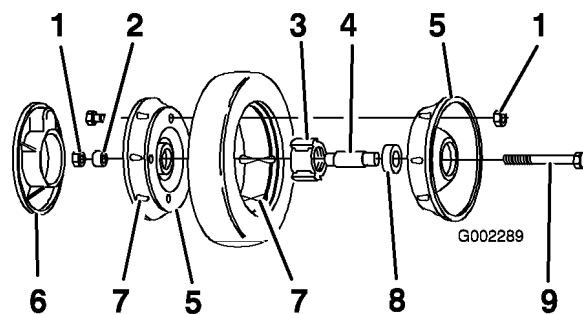

Figure 29
- Remove the bolt, the wheel spacer, and the locknut mounting the wheel to the pivot arm (Figure 29).
- Separate the wheel halves from the tire by removing 4 bolts and 4 locknuts (Figure 29).
Note: If you remove the bearings from the bearing/hub assembly, remove them by pressing on the bearing spacer (Figure 29).
- Position the tire onto one wheel half, aligning the lugs on each (Figure 29).
- Place the bearing/hub assembly into the center hole of the wheel half. Ensure that the legs of the hub are positioned over the flange of the hole (Figure 29).
- Place the other wheel half onto the bearing/hub assembly, aligning the wheel and the tire lugs and the mounting holes (Figure 29).
- Using 2 fully threaded screws or bolts (1/4-20 x 1.50 inch) and non-locking nuts, loosely secure the wheel halves together. Mount the screws or bolts in the opposing holes (Figure 29).
- Check the alignment of all parts and tighten the screws, alternating from side to side for a uniform fit, until the wheel halves are drawn together (Figure 29).
- Install the 2 bolts and 2 locknuts previously removed in the remaining holes in the wheel halves and tighten. Remove the 2 long screws or bolts and replace them with 2 bolts and 2 locknuts (Figure 29).
- Install the wheel to the pivot arm with the bolts, a spacer, and a locknut. Ensure that the spacer is positioned between the wheel hub and the pivot arm (Figure 29).